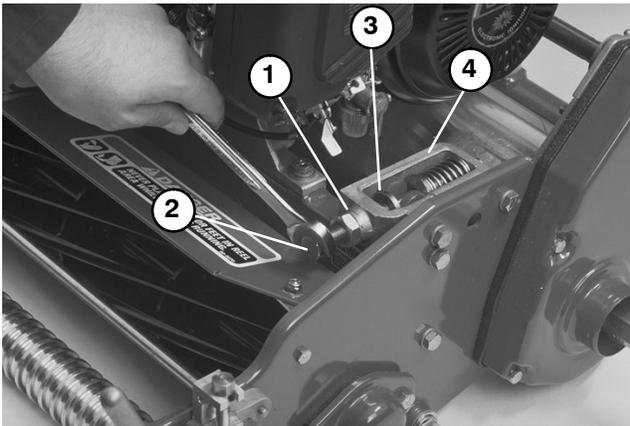

Figure 25
2. Loosen jam nut on the adjusting screw. Loosen adjusting screw until the thrust washer contacts the inside of the frame adjuster. Accomplish on both sides of the mower (Fig. 25).